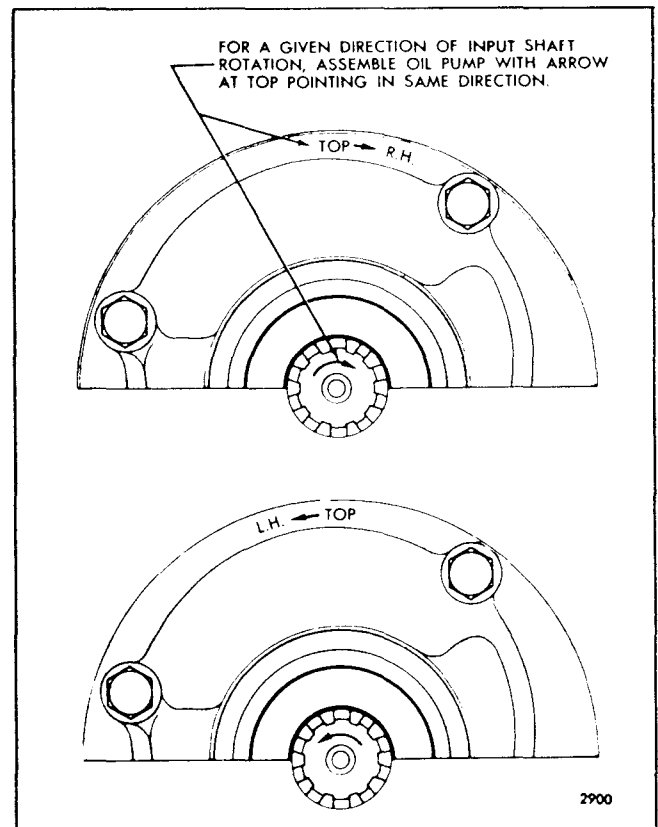

Fig. 86 - Location of Oil Pump Markings in Relationship to Input Shaft Rotation
- f. Note the markings on the forward face of the oil pump housing which are TOP L.H. and TOP R.H. Then determine the direction the drive gear input shaft will turn when the unit is attached to the engine. With this in mind, position the oil pump assembly with the arrow mark on the forward face of the oil pump housing corresponding with the drive gear input shaft rotation as shown in Fig. 86, and the marks TOP L.H. or TOP R.H. on the oil pump housing (whichever rotation is desired) facing up towards the top side of the gear housing, as viewed from the forward face of the unit.